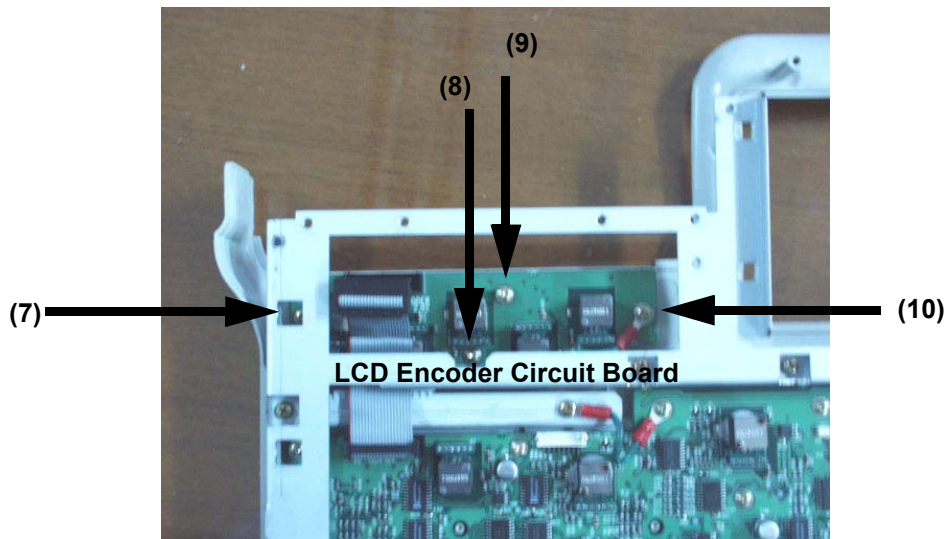

Figure 8-74 Unscrew 4 screws from LCD Encoder Circuit Board
- 3.) Unscrew four (4) screws (7-10) to remove the LCD encoder Assy. Refer to section Figure 8-74 on page 30.